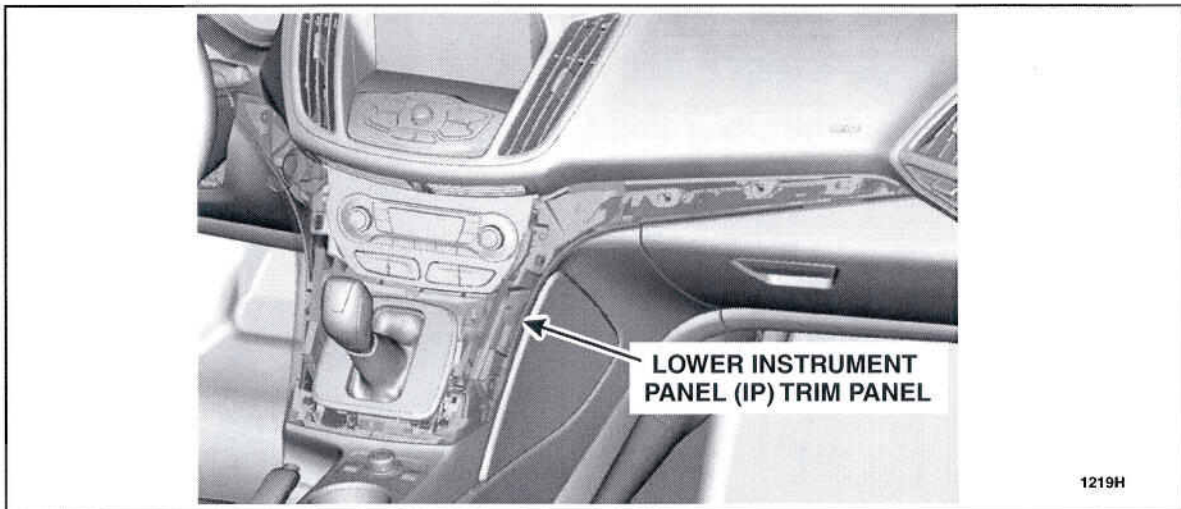

FIGURE 1
1. Remove the lower instrument panel (IP) trim panel. For additional information, refer to Workshop Manual (WSM), Section 501-12. See Figure 1.
15. Install the lower IP trim panel. For additional information, refer to WSM, Section 501-12. See Figure 1.